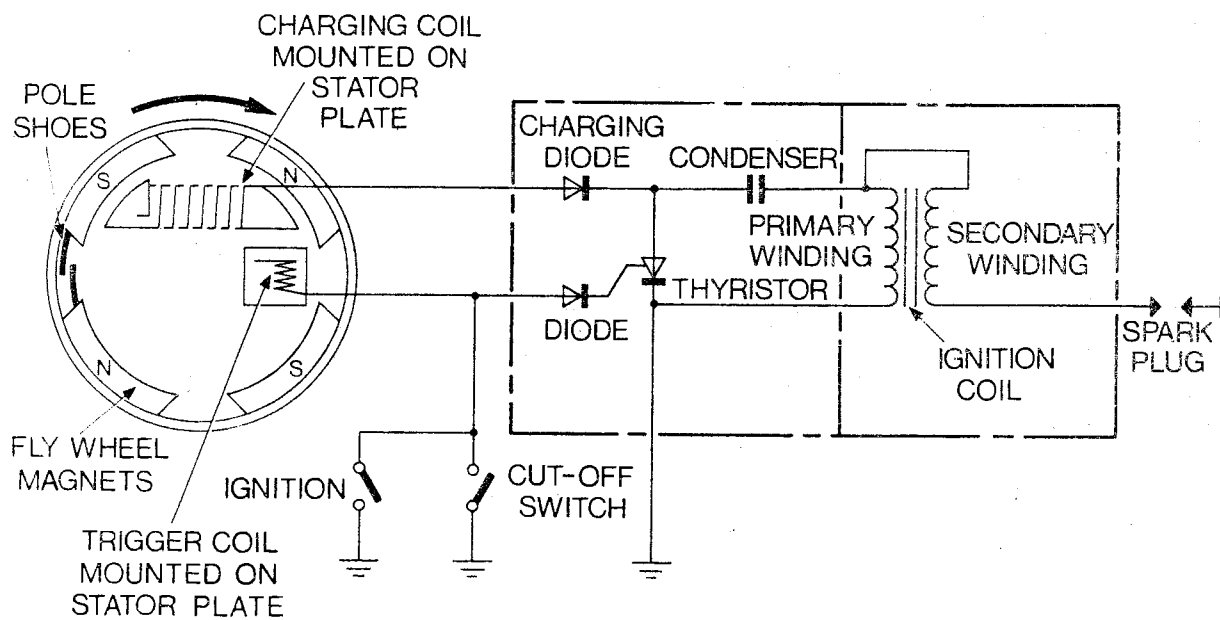

Figure 7.2 CDI (theoretical)
7.8 Ignition Operation. The switches in Figure 7.2 are shown in the 'on' position, the engine is running.